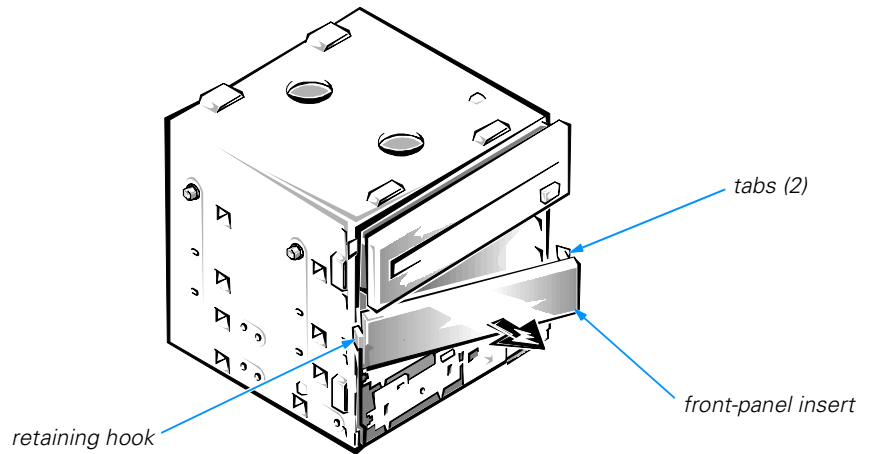

Figure 3-6. Removing a 5.25-Inch Insert
3. If you are installing a drive in the lower 5.25-inch bay, remove the front-panel insert shown in Figure 3-6 by pressing in the two tabs on the right side and rotating the insert toward you until the retaining hook disengages from the drive cage.